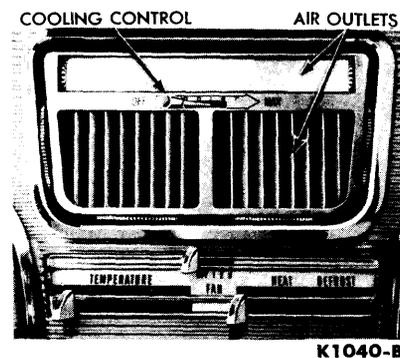

FIG. 6—Control Panel
When the ignition switch is off, or the cooling control which operates the thermostatic switch (Fig. 6), is in the off position, the magnetic clutch is not energized, and the cooling system can not operate.
The thermostatic switch may be adjusted to maintain an average evaporator temperature of from 30°-60°F. The thermostatic switch operating differential temperature at any one setting is 60°F. The switch is controlled by the cooling control (Fig. 6). The further to the right that the control is moved, the cooler the setting of the thermostatic switch.
The operating controls for the SelectAire Conditioner consist of the control panel, the instrument panel air outlet register assembly (Fig. 6), the right and left inlet air vent controls, and the fast idle control.
The SelectAire control (Fig. 6), is mounted directly below the instrument panel on the tunnel.
The control lever labeled FAN (Fig. 6) operates the blower motor through a four position switch for OFF, low (1), medium (2), and high (3), speed.
The SelectAire outlets (Fig. 6), are mounted in the center of the instrument panel. Five thumb operated wheels direct two streams of air in various directions.